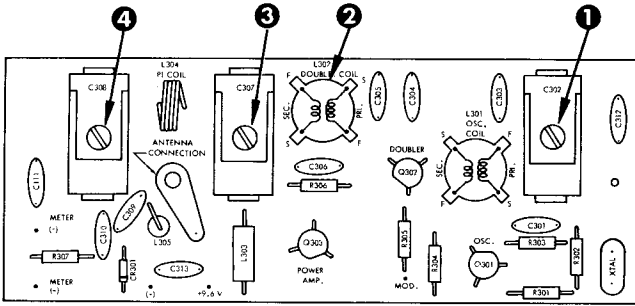

Figure 41. 72 MHz RF Tuning Points
TUNING 72 MHZ RF SECTION (See Figure 41.)
b. Test points on figure 41 correspond with those on the schematic diagram, figure 19. By using an